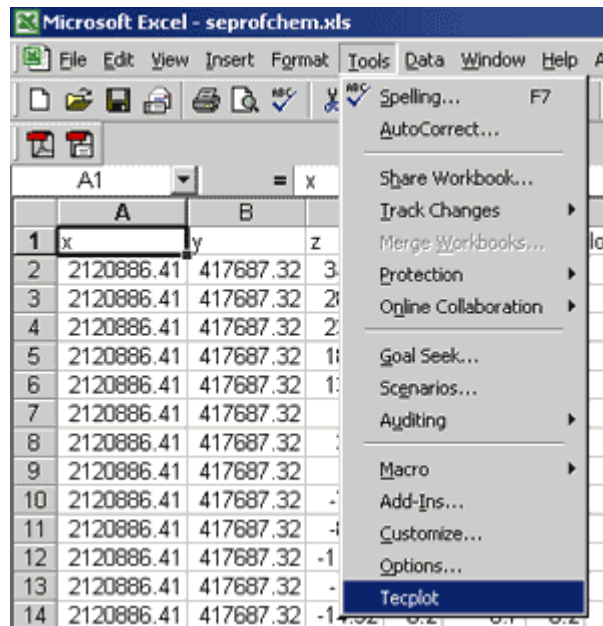

Figure B-9. Accessing the Excel Loader macro via Excel's menu bar.
1. Load your Excel data using the new **Excel Macro**. (Accessing this dialog is shown in Figure B-9)